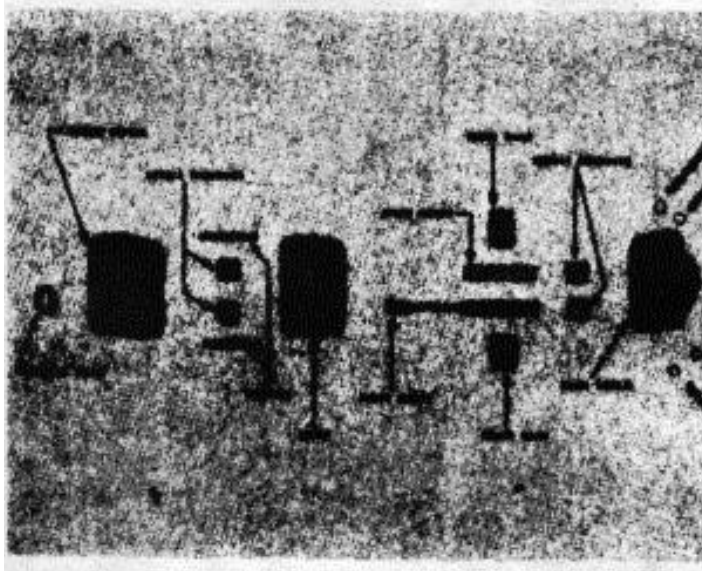

Figure 4-19. Gear pump assembly
2. If the gears are damaged press them off the shafts. Fig. 4-19.
ASSEMBLY: 1. Press in new needle bearings so they are flush to .010 below the front and rear cover faces. Fig. 4-19.
5. Slide the shafts with gears into the front gear pump cover, then slide the center section over the gears. Fig. 4-19.